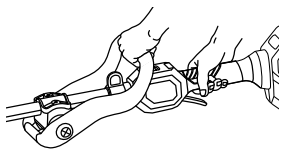

Fig. 8A
1. Stand upright and hold the product as designed. Place one hand on each handle. Make sure the machine is not touching the ground or any other objects. (Fig. 8A)